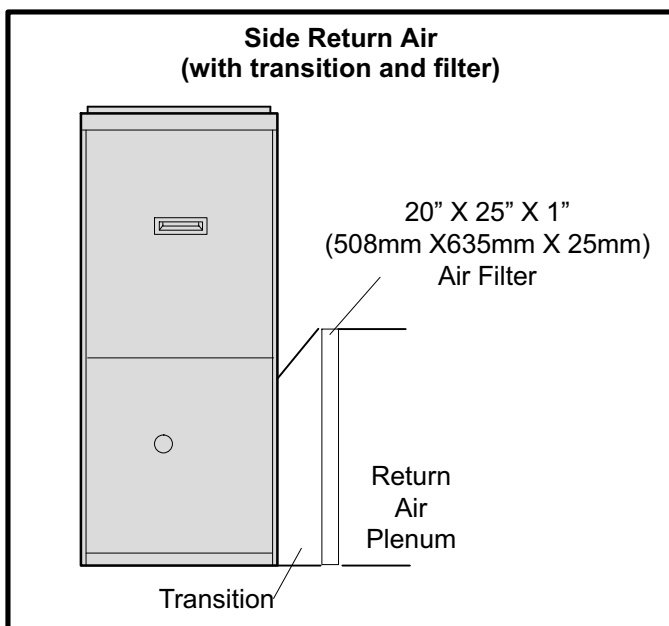

FIGURE 10
- 1 - Return air from single side with transition which will accommodate 20 x 25 x 1 in. (508 x 635 x 25 mm) air filter. (Required to maintain proper air velocity.) See figure 10.